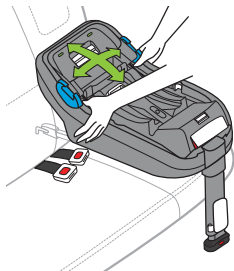

Figure 46
- While gripping the Base above the UAS Connectors, pull Base front to back and left to right to check for secure installation as shown in **Figure 46**. UAS system **MUST** stay secure and Base should not move more than 2.5 cm (1 in.) in any direction.